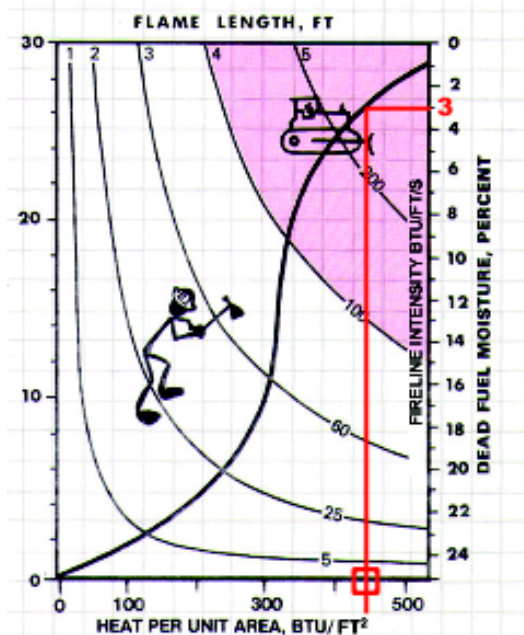

Figure 9.10—Nomogram—upper right quadrant.
a. Starting in the upper right quadrant, draw a horizontal line from the dead fuel moisture percent value intersecting the S-shaped curve in the quadrant, see figure 9.10.